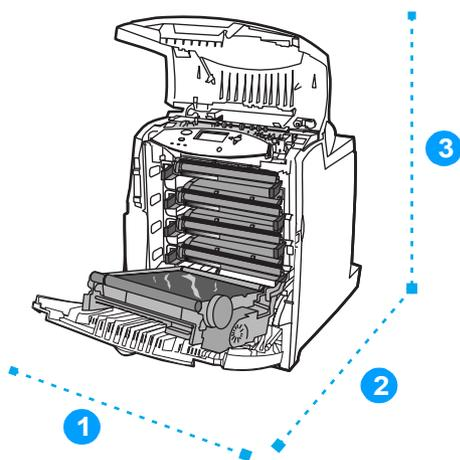

Figure 1-4
- walls or other objects. There must be enough space around the printer for proper access and ventilation. See Figure 1-4 on page 23.